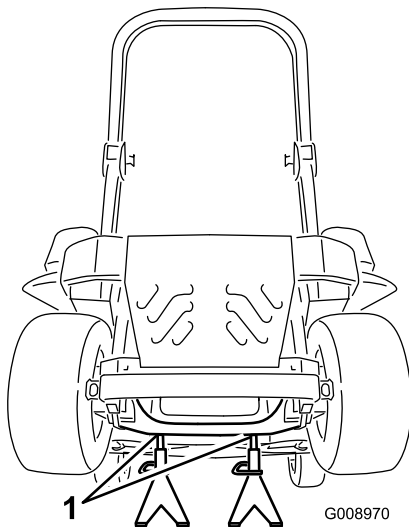

Figure 86
3. Raise the machine and support it with jack stands (Figure 86).
9. Remove the jack stands and lower the machine (Figure 86).